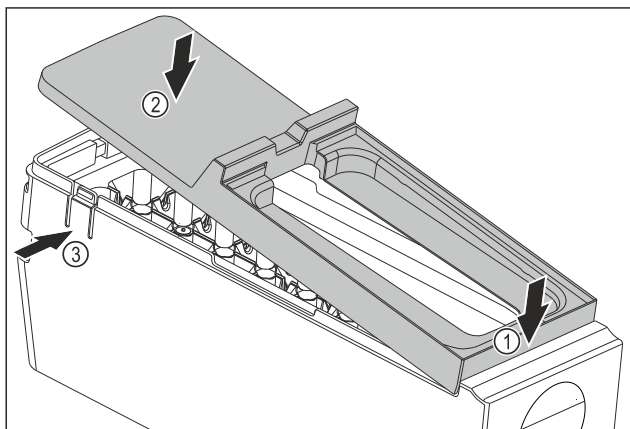

Fig. 186
- Installing the cover of the EasyTwist-Ice body: Fit the cover at the front. Fig. 186 (1)
- Lower the cover at the rear. Fig. 186 (2)
- ▷ The cover snaps audibly into place in both tabs Fig. 186 (3).